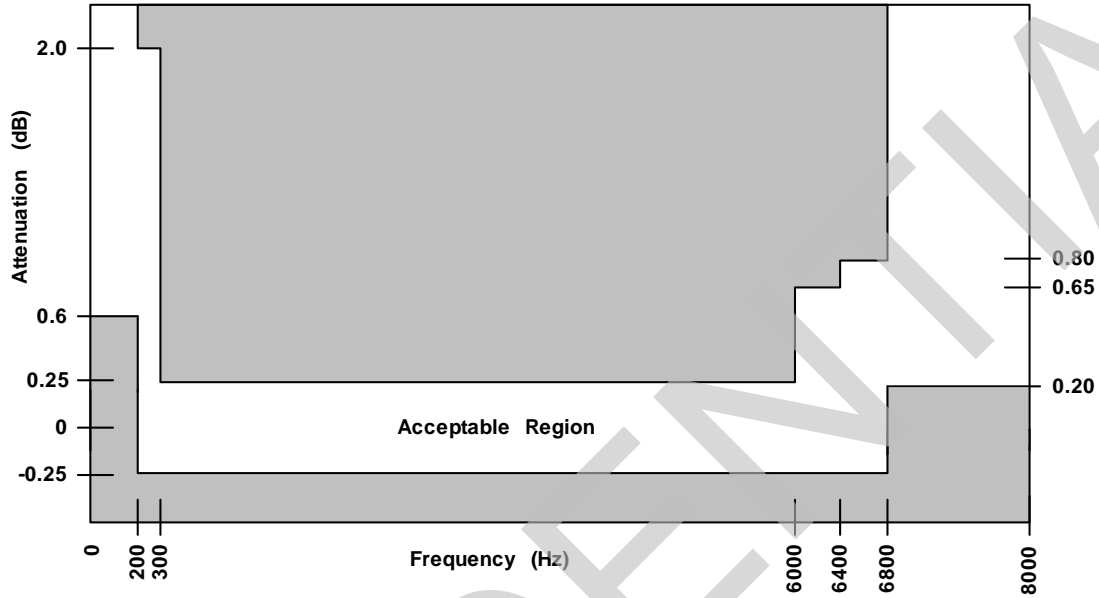

Figure 31 - Transmit (A to D) Path Attenuation vs. Frequency - (with High-Pass Filter Enabled)
3. See Figure 31. "Transmit \(A to D\) Path Attenuation vs. Frequency - \(with High-Pass Filter Enabled\)" on page 46 and Figure 32. "Receive \(D to A\) Path Attenuation vs. Frequency" on page 46.
The signal attenuation in either path is nominally independent of the frequency. The deviations from nominal attenuation will stay within the limits shown in Figure 31 and Figure 32. The reference frequency is 1014 Hz and the signal level is -10 dBm0.